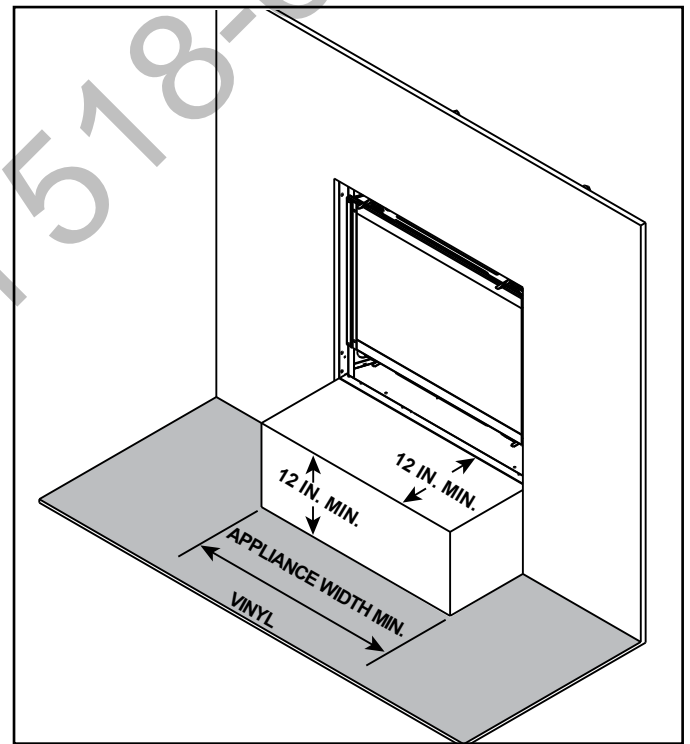

Figure 10.4 Vinyl Flooring Recommendations
- When the appliance is raised off the floor 4 inches (102 mm) or more, combustible flooring in front of the appliance is acceptable. See Figure 10.4 for vinyl flooring recommendations.
Vinyl flooring is sensitive to heat. To avoid damage to the vinyl flooring, a 12 inch minimum x 12 inch minimum hearth is recommended when using vinyl flooring up to the wall. See Figure 10.4. If no hearth is used, it is recommended to provide a minimum of 24 inches of clearance in front of the appliance to the vinyl flooring OR the bottom of the appliance should be raised a minimum of 24 inches off of the floor to allow the vinyl flooring to be installed up to the wall.